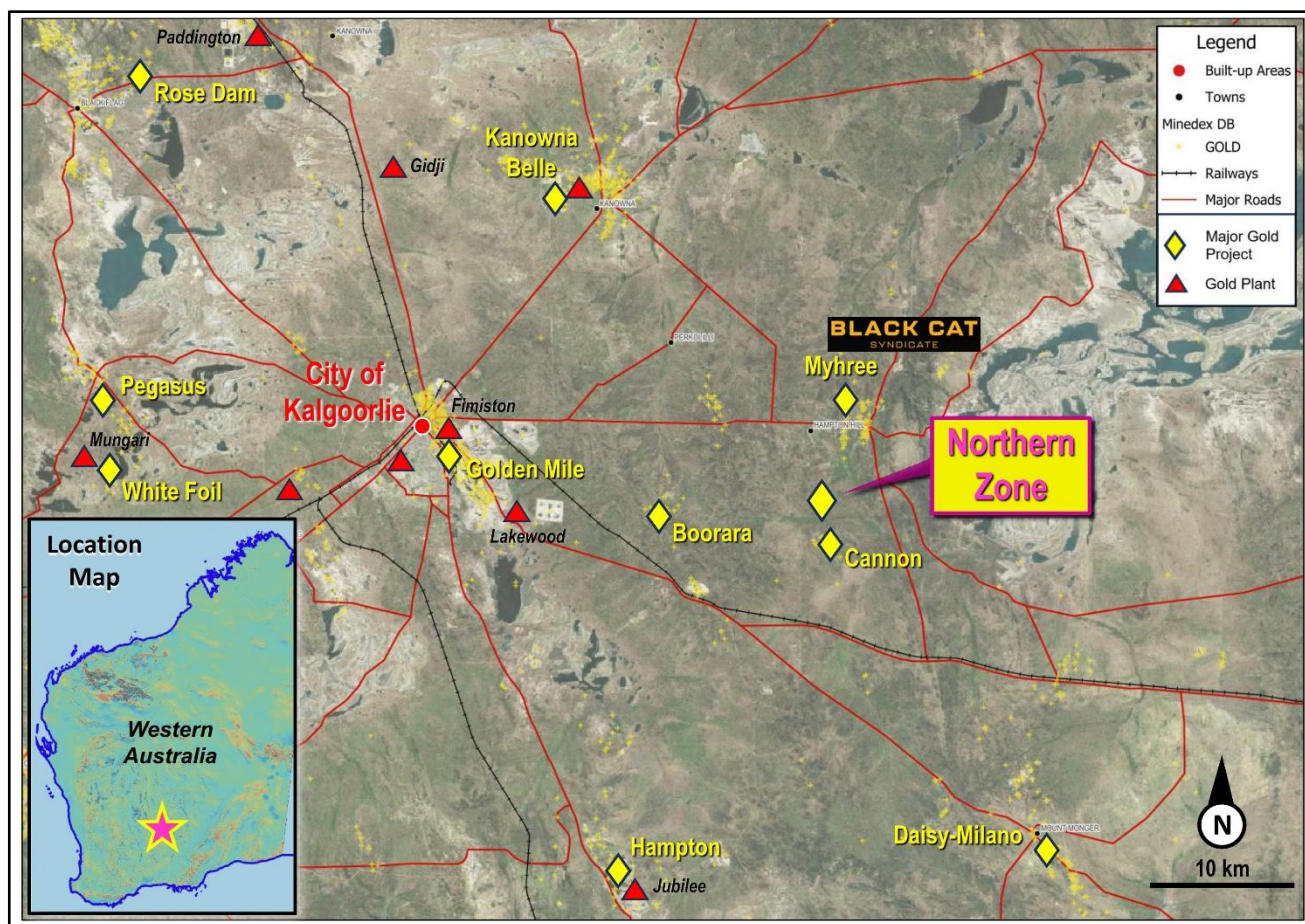

Figure 1: Northern Zone Project Map showing proximity to the Kalgoorlie "Super Pit".
Riversgold Limited (ASX: RGL, Riversgold or the Company) is pleased to announce that it has received assay results from the first two reverse circulation (RC) drill holes of an 11 hole 1,289m program recently completed at the Northern Zone Intrusive Hosted Gold Project, located 25 km east of Kalgoorlie in Western Australia (refer to **Figure 1** for location).